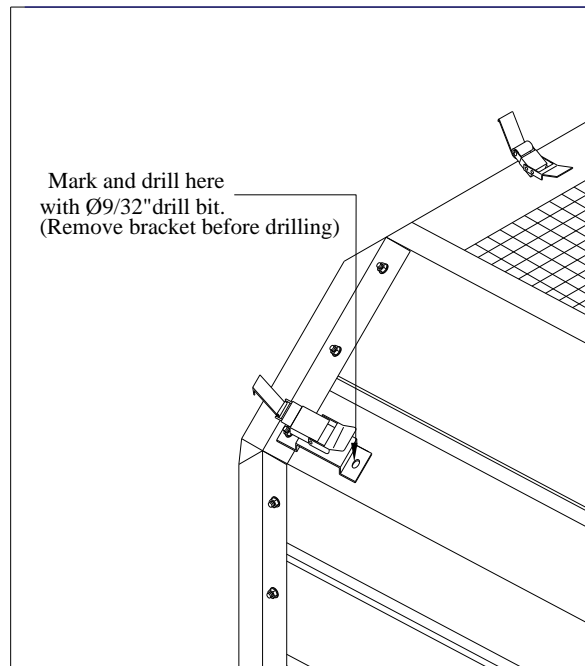

Fig. 2
3. Mark and drill  $\text{Ø}9/32$ " hole for the opposite end of latch bracket. (Fig. 2)